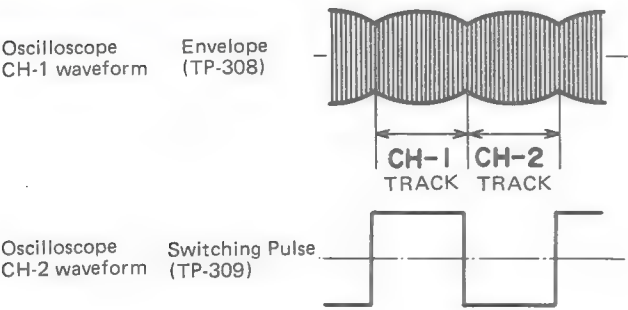

Figure 27
4. Play a rough adjustment tape and carryout a rough adjustment of the height of the guide rollers using a regular screwdriver. (a guide roller height adjustment — screwdriver). Line up the lower edge of the tape with the lead of the drum (See Figure 27). Also check that the tape does not curl on the flanges of the T.S. guide rollers.
5. Play a standard tape and fine adjust the height of the guide rollers so that the envelope is flat, and not too adversely affected even when the tracking knobs are rotated (See Figure 27).
- 2. Trigger with a switching pulse and observe the envelope (Figure 27).